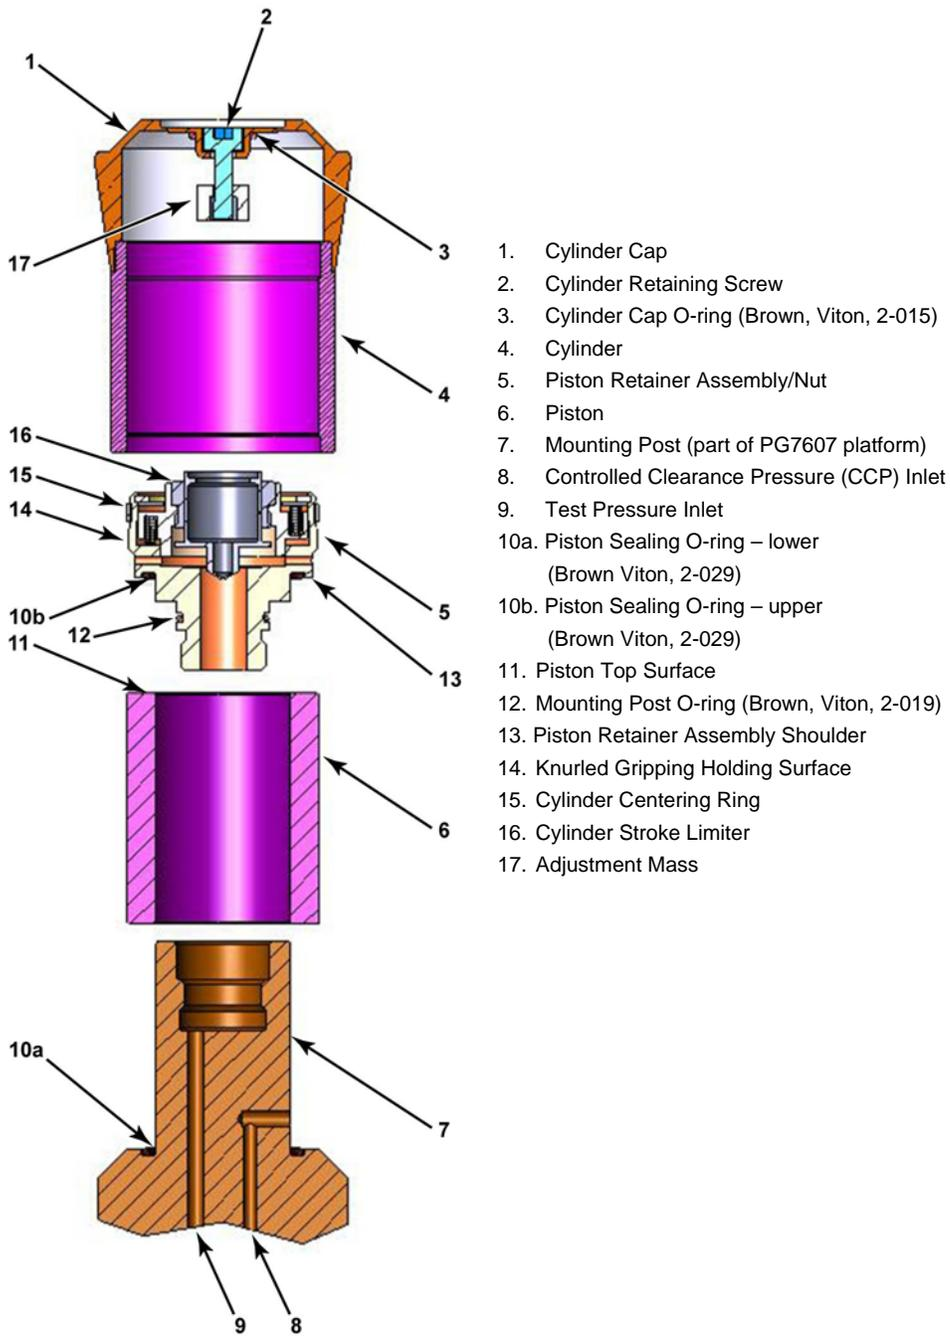

Figure 1. Piston-Cylinder Installation
To operate the PG7607 platform, a piston-cylinder must be installed on its mounting post. To install a piston-cylinder assembly on the PG7607 platform, follow the sequential procedure below. This procedure may be used on the first and subsequent piston-cylinder installations; it may also be used in reverse order to remove a piston-cylinder. Numerical references in the procedure refer to Figure 1.
The controlled clearance pressure is introduced through the CCP port on the back of the PG7607 platform. The pressure is applied through the mounting post to the inside of the piston (see Figure 1, Ref. 8). The pressure is contained by the two piston sealing O-rings (see Figure 1, Refs. 10a, 10b).
- **Water/detergent method:** Due to the piston-cylinder's large diameter and very small annular gap, it is very difficult to insert the piston into the cylinder when the piston is not installed on the PG7607 mounting post. Without the alignment mechanism provided by the mounting post arrangement (see Figure 1) there is a substantial risk of cocking the cylinder on the piston. When using the water/detergent method to clean a PG7607 piston-cylinder, wash the cylinder and the piston separately and do not attempt to put the piston into the cylinder until the piston is installed on the PG7607 platform mounting post.
The floating assembly of the PG7607 cylinder includes (see Figure 1):
- ❶ (See Section 4.1, Figure 1 for this step.) With the piston NOT installed, install the piston retaining assembly (5) onto the mounting post (7).
- ❷ Using circlip pliers, remove the spring retaining circlip (1) from the top of the assembly. As the circlip is removed, the spring washer (2) will lift slightly as the springs (3, 5) decompress.
- ❸ Lift off spring washer (2).
- ❹ Gently lift out the spring carrier (4) along with the four high stop springs (3) it carries. This leaves behind, in the piston retaining nut (7), the cylinder stroke limiter (6) and the four low stop springs (5). Take care that the springs do not drop down into the measured pressure opening in the center of the mounting post.
- ❺ Using tweezers, carefully remove the four low stop springs (5). Then lift out the cylinder stroke limiter (6).
*The cylinder stroke limiter (6) floats with the cylinder and is thus part of the cylinder assembly mass. Take care not to contaminate this part when handling it. It is preferable to avoid contacting this part with bare hands.*